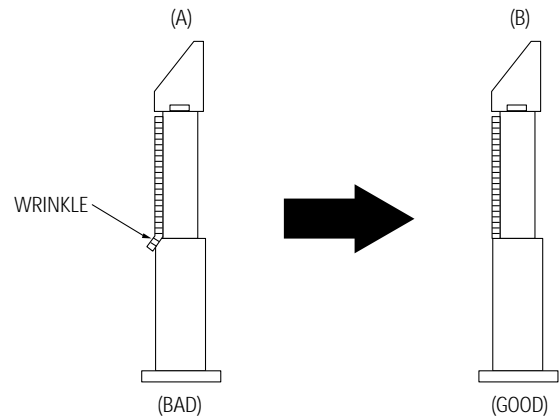

Fig. 5-8 Tape Guide Check
- 2) Confirm that there is no curl or wrinkle at the lower flange of tape guide as shown in Fig. 5-8 (B).
- 3) If a curl or wrinkle of the tape occurs, slightly turn the screw (A) tilt adjust on the ACE head ass'y.